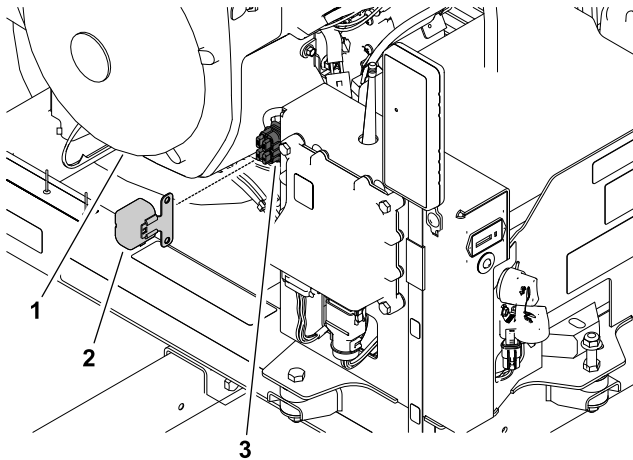

Figure 42
1. At the front, inboard side of the control tower, remove the fuse-block cover from the fuse block (Figure 42).
The fuse block is a part of the machine wire harness. It is located behind the receiver on the right side of the control tower (Figure 42).